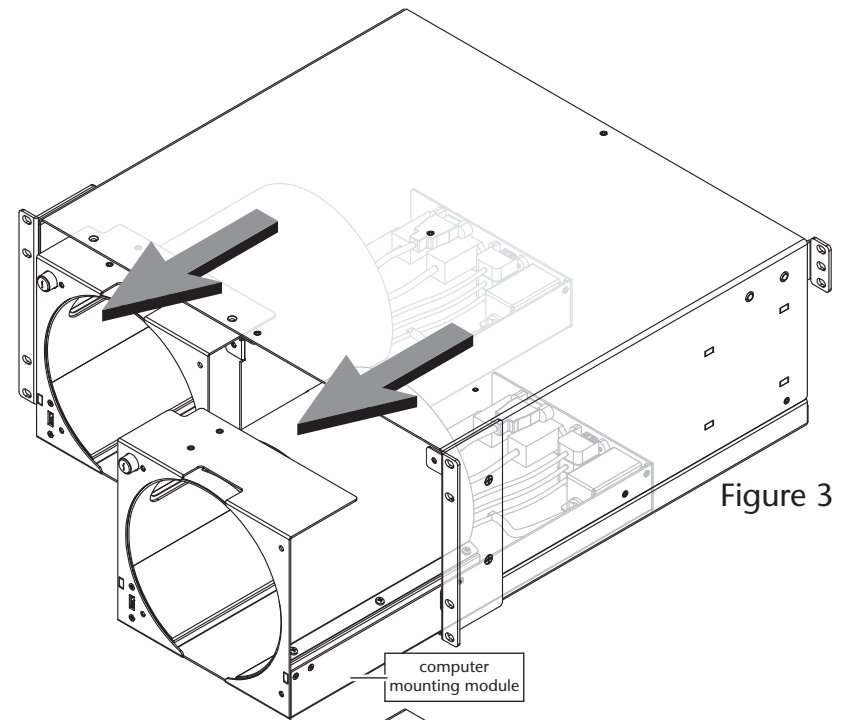

Figure 3
4. Gently pull out the computer mounting modules through the front of the enclosure (**Figure 3**).